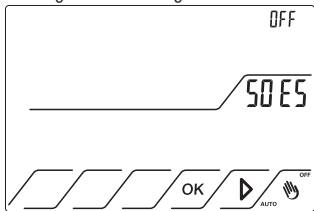

Fig.43
11.3.2 Press  up to position on **SO ES** that will start to flash. The status is OFF. Fig 43